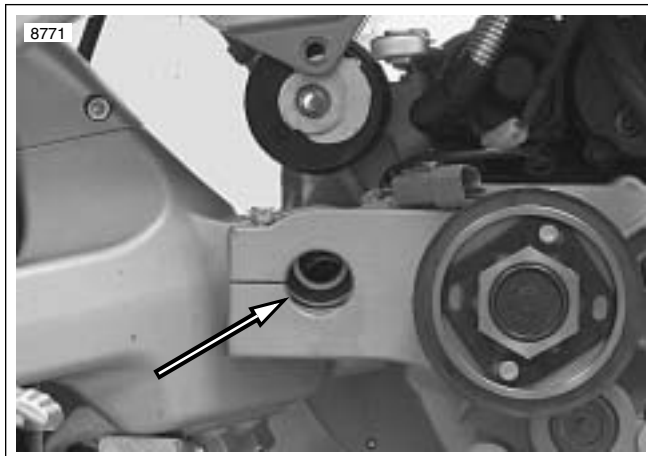

Figure 3-39. Aligning Swingarm to Crankcase for Pivot Shaft Installation (Typical)
3. See Figure 3-39. With engine on a flat scissors jack, raise engine and chassis until swingarm and rear isolator mount align and pivot shaft can be installed.